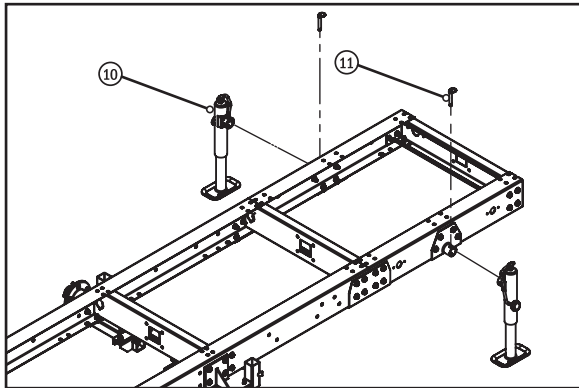

Fig. 11
Step 17: Install the Leveling Jacks. Lift one end of the trailer frame and place two Leveling Jacks (#10) that are set to their lowest position onto the Leveling Jack Connecting Plates (#9) installed in Step 9, and use the Jack Lock Pin (#11) to hold the leveling jack in place (Fig. 11). Set down the trailer frame onto the jacks, then do the same for the other end. Once the four jacks are installed, lift the trailer a few inches and install the middle two leveling jacks.